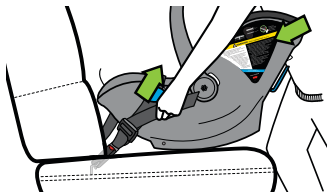

Figure 55
- Use your body to press the Carrier into the vehicle seat back while pulling free end of LATCH Belt to tighten, as shown in **Figure 55**.